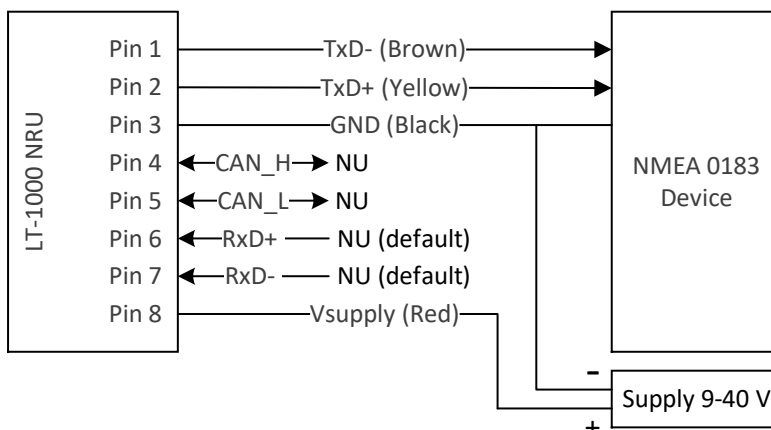

FIGURE 31: CONNECTING THE LT-1000 NRU TO A BALANCED NMEA 0183 DEVICE.
**IMPORTANT:** It is recommended to connect the LT-1000 NRU with a balanced NMEA 0183 connection (RS-422) as illustrated in Figure 31. An unbalanced connection (RS-232), as illustrated in Figure 32, is less robust and should only be considered, when using a short communication cable.
**NOTE:** Make sure that the LT-1000 NRU is configured for the desired baud rate (4800 or 38400 baud); see *DIP-switch* on page 37. Check that both the NMEA 0183 receive device and the LT-1000 NRU have the same GND reference, as illustrated in Figure 31 and Figure 32.